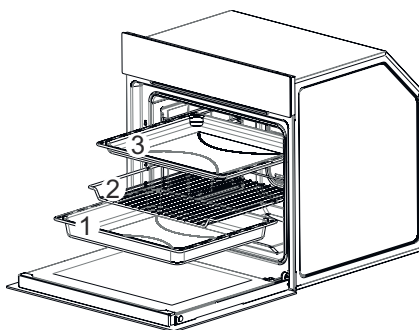

Fig. 22
- Remove the trays and the grill respectively (1-2-3 / Fig. 22).